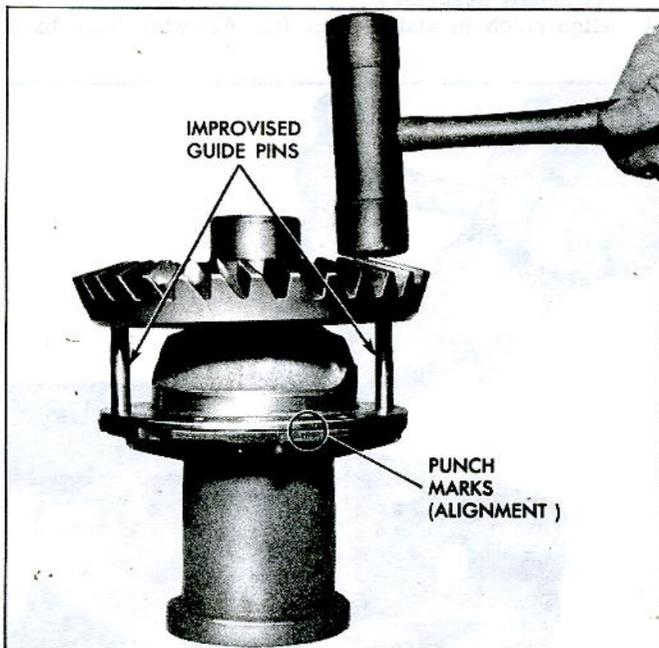

Fig. 34—Installing Ring Gear on Differential Case and Cover Using Improved Guide Pins
4. Position "U" joint yoke nut and side gear with thrust washer installed on its hub on pinions and place differential cover on case. Align punch marks on edges of differential carrier and cover (fig. 34).